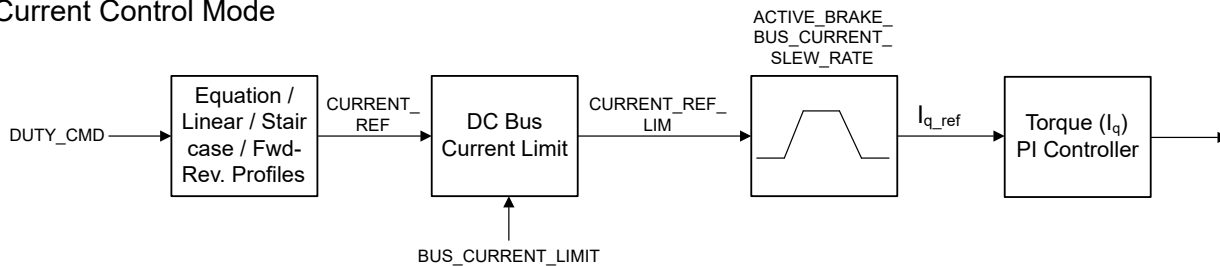

Figure 6-48. DC Bus Current Limit
The DC bus current limit feature can be used to limit the current supplied by the DC input source (VM). This feature can be enabled by setting `BUS_CURRENT_LIMIT_ENABLE` to 1b. The DC bus current limit can be configured using `BUS_CURRENT_LIMIT`. This feature limits the DC bus current by limiting the speed (`SPEED_REF_LIM`)/current (`CURRENT_REF_LIM`) reference as shown in Figure 6-48. Enabling this feature may restrict the speed/phase current of the motor from reaching the set point (`SPEED_REF` or `CURRENT_REF`) in order to limit the DC bus current. The DC bus current limit status is reported on `BUS_CURRENT_LIMIT_STATUS`.